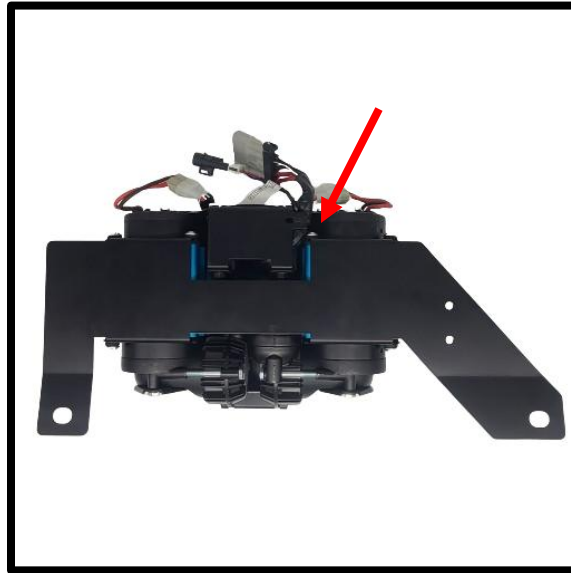

Figure 3
- 1-C) Place the bracket over the compressor assembly while ensuring the grommets slide into place over the screw holes in the body of the compressor. Be careful not to tear the grommets you slide bracket into place. Also be careful not to damage the wiring harness in the area indicated with the **red** arrow in **Figure 3**.